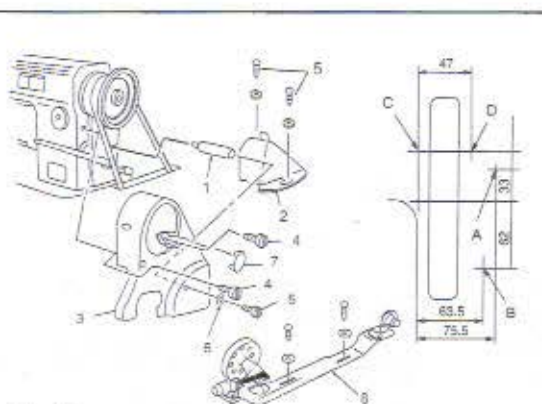

Fig.23
- 1) When sewing heavy-weight materials, move thread guide ① to the left in direction A to increase the length of thread pulled out by the thread take-up.
- 2) When sewing light-weight materials, move thread guide ① to the right in direction B to decrease the length of thread pulled out by the thread take-up.
- 3) Normally, thread guide ① is positioned in a way that marker line C is aligned with the center of the screw.
17. INSTALLING THE BELT COVER AND THE BOBBIN WINDER(Fig.23,24,25)